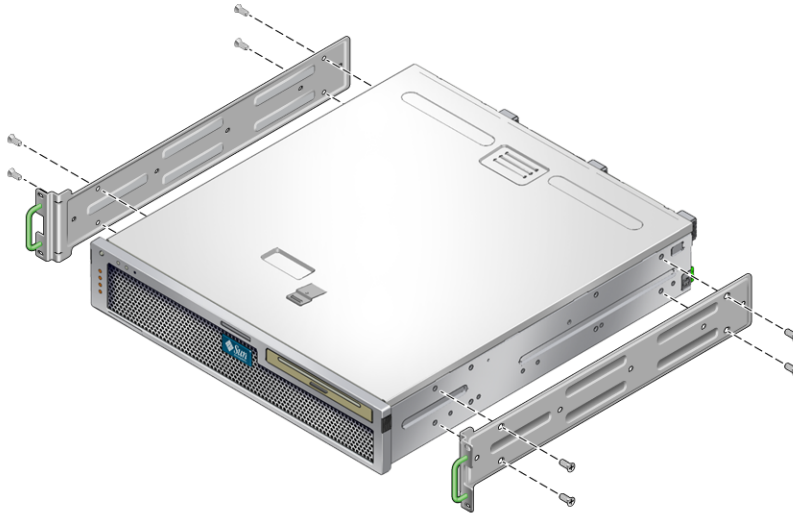

FIGURE 3-2 Securing the Hardmount Brackets to the Server
2. Use four of the supplied $M5 \times 8$ mm flathead Phillips screws to secure each of the hardmount brackets to the sides of the server (FIGURE 3-2).